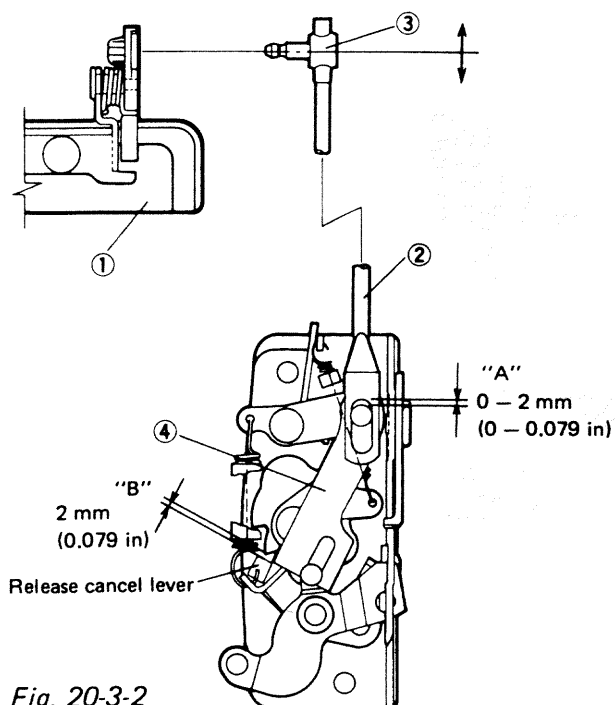

Fig. 20-3-2
When installing open rod ② onto outside open handle ①, adjust clearances "A" to 0 – 2 mm (0 – 0.079 in) and "B" to 2 mm (0.079 in) as shown in Fig. 20-3-2 by turning adjusting joint ③